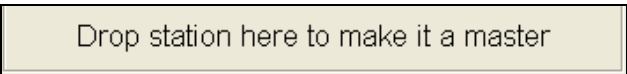

Figure 16.4.45B
- To return a Slave station back to a Master just click on the slave and drag it to the bottom of the “Sensor Assignment” window. Release the mouse button when your cursor is on top of **Drop station here to make it a master** button (Figure 16.4.45B).